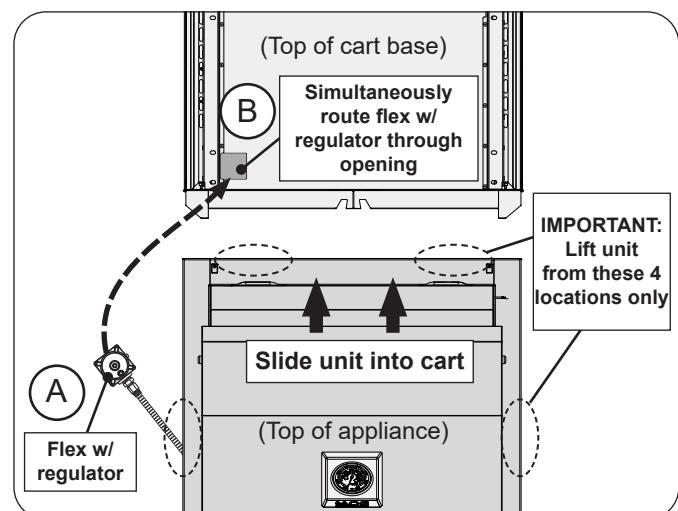

Fig. 10-3 Begin appliance installation
DO NOT lift the unit from the front panel when installing. Lift only from the designated areas shown on Fig. 10-3.
1. Using 2 people minimum, carefully lift and place the rear end of the appliance over the cart opening and begin to slide the unit inward. DO NOT SLIDE THE UNIT IN COMPLETELY! **While installing** (Fig. 10-3, A), be sure to simultaneously route the flex connector with regulator downward through the rectangular opening on the front left portion of the cavity floor. See Fig. 10-3, B.
Note: Only lift the appliance from the locations indicated on Fig. 10-3. Do not lift the unit from the front panel.